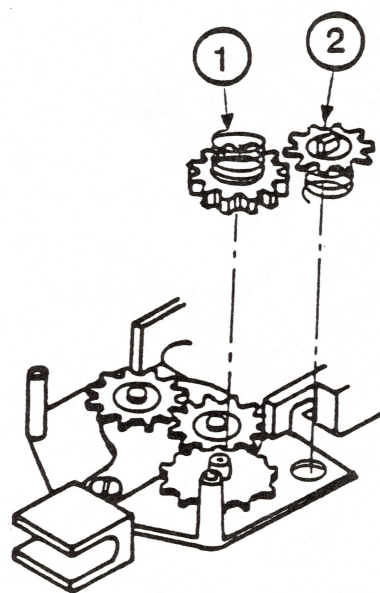

FIGURE 4
**NOTE:** There are springs beneath the cassette mount plate (see Figure 4). They may pop out when you lift up the mount plate.
6. Pull up the ratchet gear and ratchet spring (see Figure 4, #1). If they don't come off easily, carefully pry them off with a flat blade screwdriver.
7. Pull off the cartridge drive gear and the ribbon spring (see Figure 4, #2).